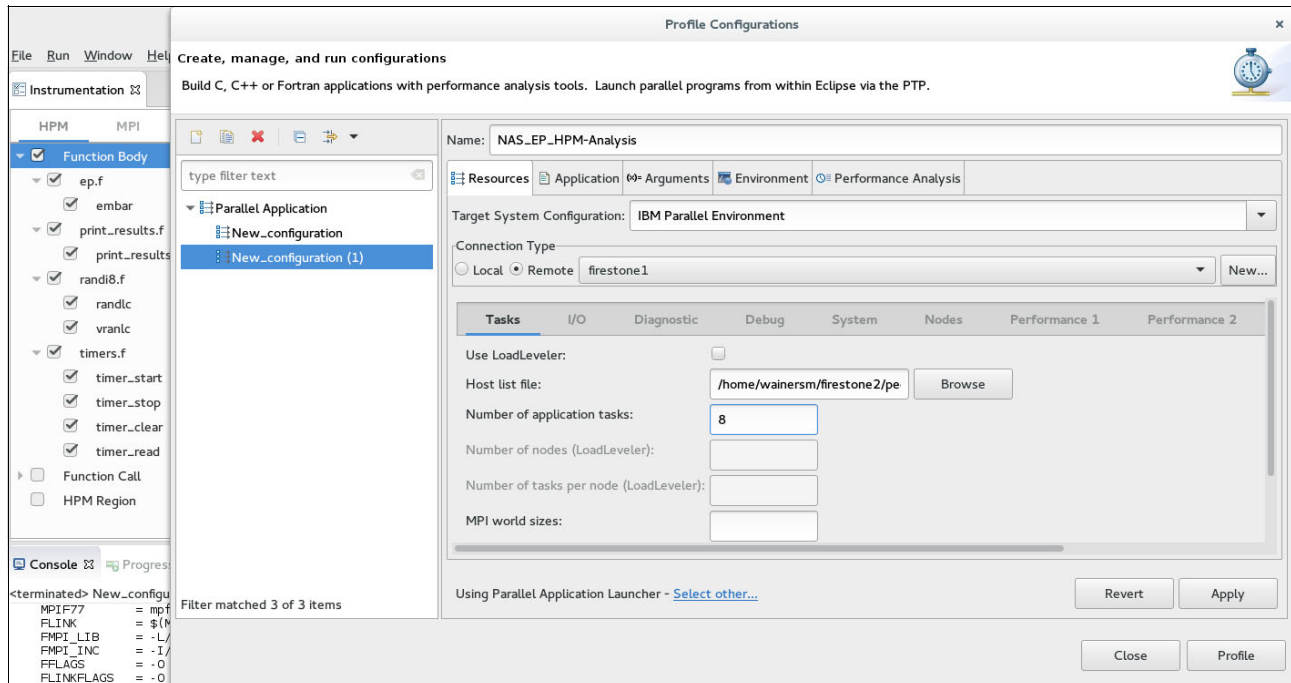

Figure 6-11 Profile configurations
2. Double-click the **Parallel Application** list on the left side pane. A new configuration entry is created and a pane is displayed for it as shown in Figure 6-11.